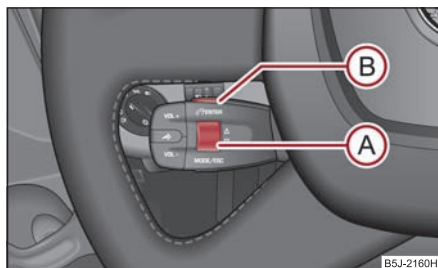

Fig. 138 Multi-functional module: control buttons
- You can scroll through the telephone memory for individual names or menus by slowly turning the thumbwheel (A) ⇒ fig. 138.
- You can scroll through from A to Z or from Z to A within the telephone memory by slowly turning the thumbwheel (A) downwards or upwards.
- You can always return to one level higher in the menu of the information display by pressing the button (B) at the top for a lengthy period.
- The selected menu is displayed by briefly pressing the button (B).